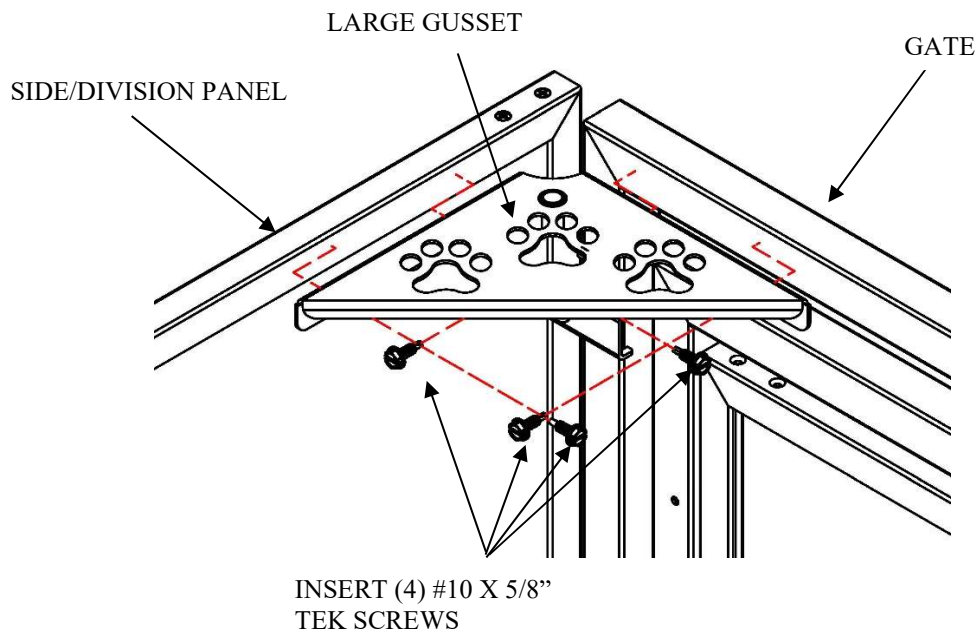

Figure 18
3. Moving to the front of the kennel, use the previous method and supplied Tek screws to attach a large gusset to the side panel and gate. See Figure 18.